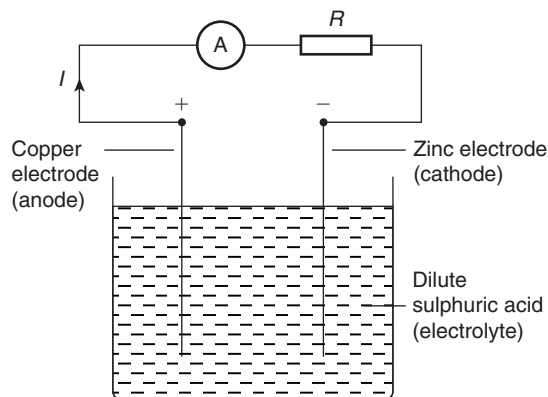

Figure 4.1
A **simple cell** comprises two dissimilar conductors (electrodes) in an electrolyte. Such a cell is shown in Fig. 4.1, comprising copper and zinc electrodes. An electric current is found to flow between the electrodes. Other possible electrode pairs exist, including zinc–lead and zinc–iron. The electrode potential (i.e. the p.d. measured between the electrodes) varies for each pair of metals. By knowing the e.m.f. of each metal with respect
If the simple cell shown in Fig. 4.1 is left connected for some time, the current  $I$  decreases fairly rapidly. This is because of the formation of a film of hydrogen bubbles on the copper anode. This effect is known as the polarization of the cell. The hydrogen prevents full contact between the copper electrode and the electrolyte and this increases the internal resistance of the cell. The effect can be overcome by using a chemical depolarizing agent or depolarizer, such as potassium dichromate, which removes the hydrogen bubbles as they form. This allows the cell to deliver a steady current.
- The metal that is higher in the series acts as the negative electrode, and vice versa. For example, the zinc electrode in the cell shown in Fig. 4.1 is negative and the copper electrode is positive.